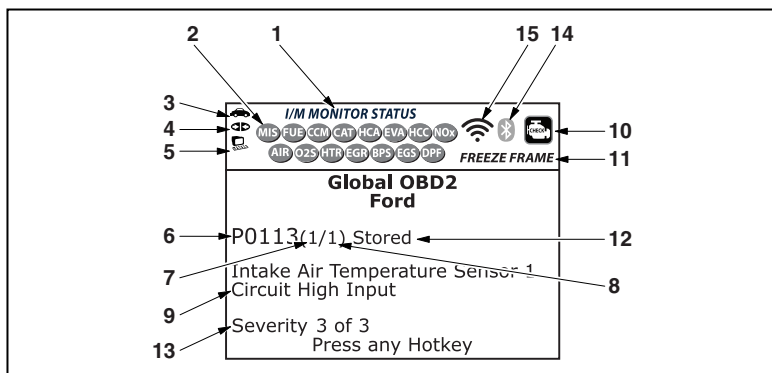

Figure 2. Display Functions
See Figure 2 for the locations of items 1 through 15, below.